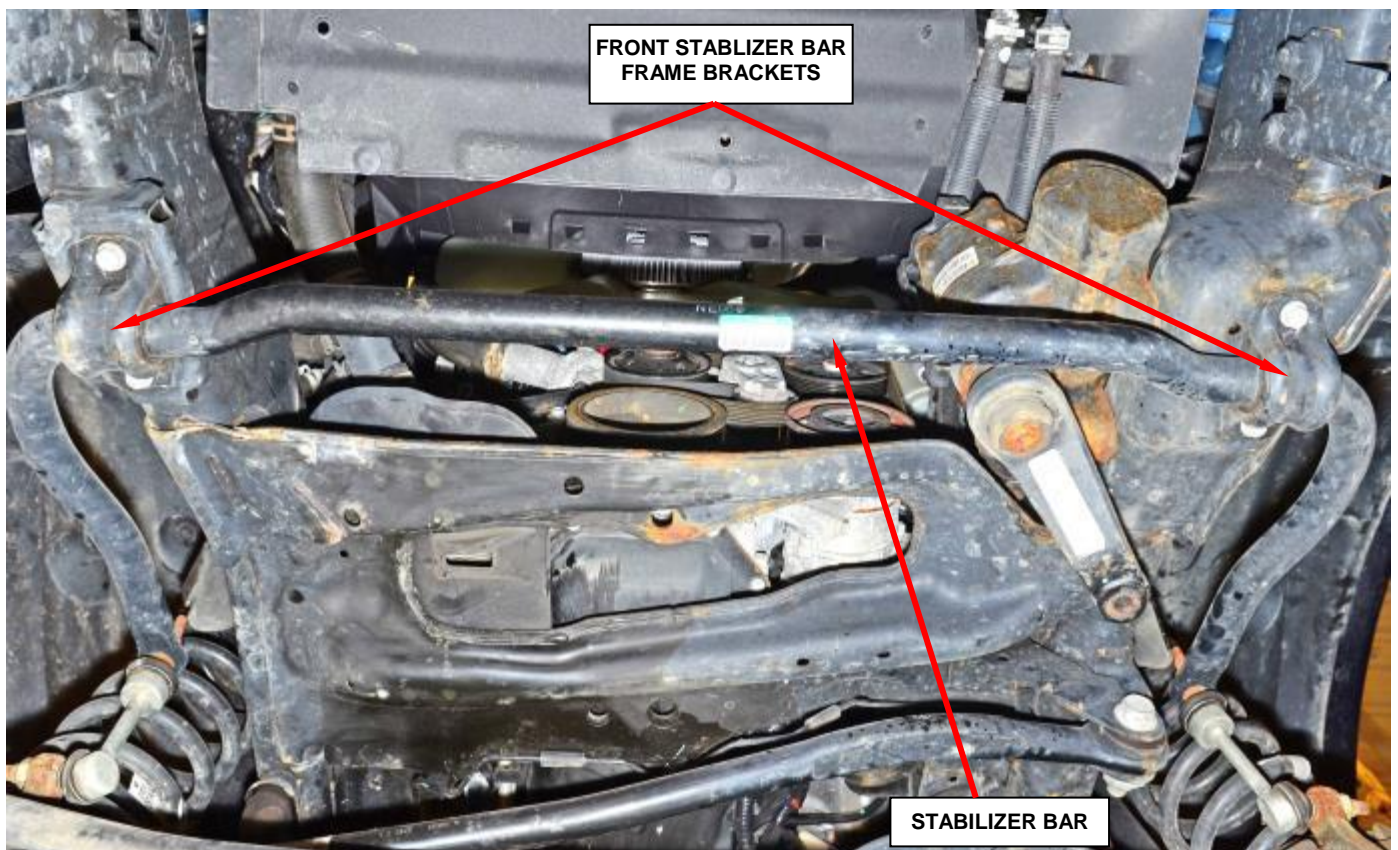

Figure 43 – Front Stabilizer Bar
17. Disconnect the front suspension stabilizer bar at the frame brackets (Figure 43).